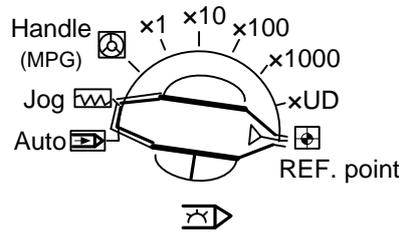

Fig. 1-8 Mode Selection Knob
- (1) USB interface with a protection cap is used for connection with removable flash disk.
- (2) E-stop switch. Anytime there is possible danger, operator can press E-stop switch to stop the machine to protect safety of both human and machine, and when danger is cleared, turn the switch in clockwise direction to remove the alarm.
- (3) Spindle override knob, which is used for spindle speed override adjustment. Refer to section 3.5 for details.
- (4) Feed override knob is used for feedrate override adjustment. Refer to chapter 3.10.1 for details.
- (5) Mode selection knob is as shown in Fig. 1-8. You can select from auto mode, jog mode, handle mode and REF. point modes according to your actual needs.